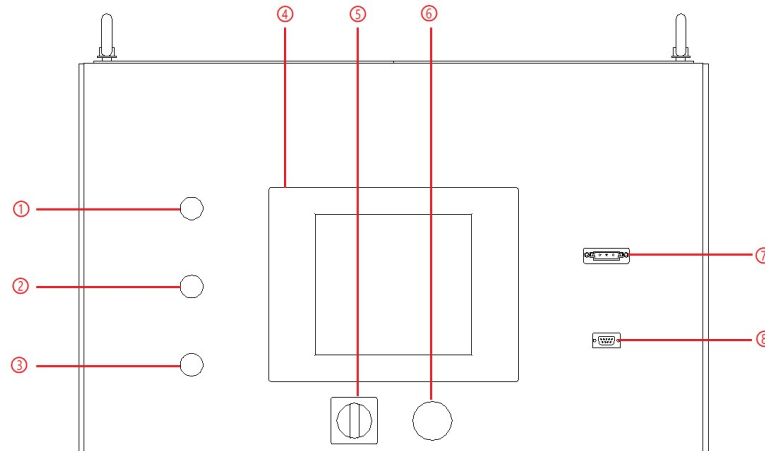

Figure 1-2 Front panel
①	White Light	The power supply is standby.
②	Green Light	The power supply is operating normally.
③	Red Light	The power is failure.
④	TFT-Touch Panel	Capacitive TFT touch panel displayer (12 inch), using the windows OS, provides a GUI, and has the functions of setting system parameters, output parameters, measurements, capturing and saving waveform, and displaying failures.
⑤	Power Knob	The User can use power knob to turn on / off the power without opening the cabinet door. Turn the control module clockwise to power on; and turn the control module counterclockwise to power off.
⑥	Emergency Stop Button	The emergency stop button is only used in the event of an unexpected emergency. Do not press the button under normal working conditions. Turn the emergency stop button clockwise to the right can cancel the emergency braking.
⑦	CAN interface	Optional, for remote control (-CAN option)
⑧	RS232 interface	Optional, for remote control (-232 option)
This touch screen (Figure 1-2④) is a resistance screen, which works through pressure sensing and has good response sensitivity. Support touch input of any object (such as stylus or fingernail).